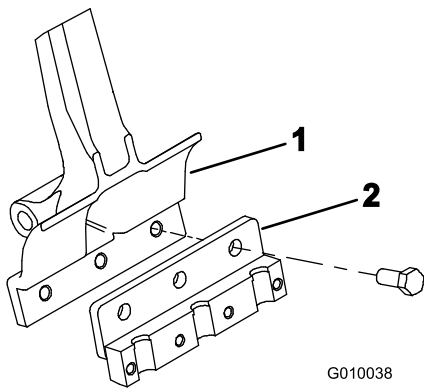

Figure 22
3. Mount a tine holder to each tine arm (Figure 22) with 3 bolts (1/2 x 1-1/4 inches). Torque the bolts to 101.6 N·m (75 ft-lb).